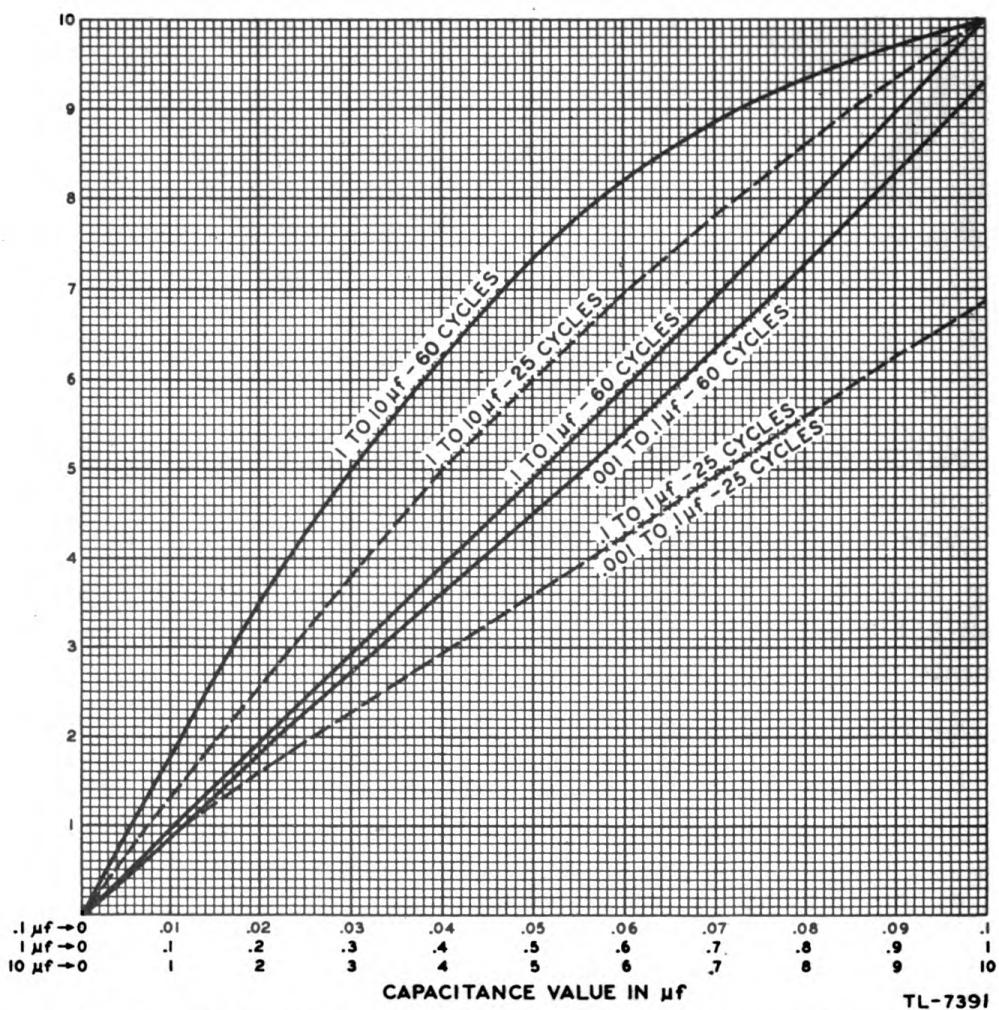
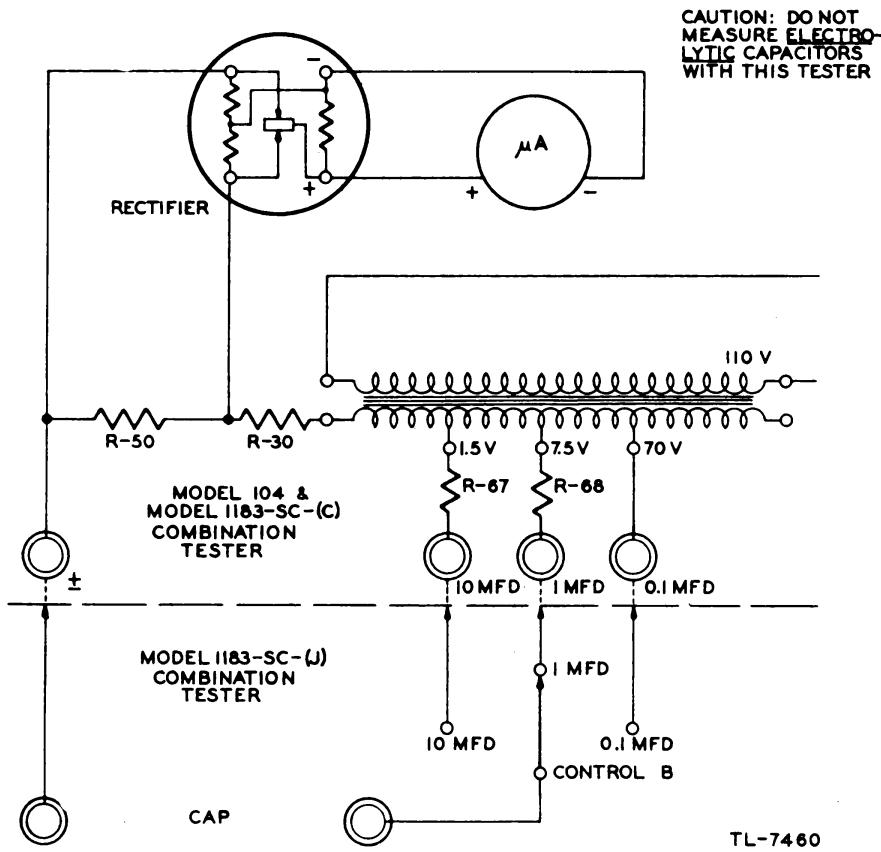

FIG. 10. COMBINATION TESTER, CAPACITANCE TEST GRAPH
FIG. 18. MODEL 104 COMBINATION TESTER, SIMPLIFIED CAPACITANCE MEASURING CIRCUIT
h. Read the meter indication on the 0-10 A.C. scale. Then refer to the capacitor test graph (fig. 10) to determine the capacitance value corresponding to the meter reading. The capacitance value chart lists approximate readings for 60-cycle current.
- g. Read the meter on the 0-10 A.C. scale. Refer to the capacitor test graph (fig. 10) to determine the capacitance value corresponding to the meter reading.
e. *Combination Tester as a Capacitance Measuring Device* (fig. 18). When Control D is set at CAP, the circuits are so arranged that either the 1.5-, 7.5-, or 70-volt winding of transformer (T-1) is placed in series with the capacitor being tested. Resistors (R-50) and (R-30) are shunted across the rectifier input. One terminal of the capacitor under test is connected to an input terminal of the rectifier. The other input terminal of the rectifier is attached to resistor (R-30). The indicating meter is placed across the output terminals of the rectifier. The meter is read on the 10-volt a-c scale. This reading is used with the capacitance graph (fig. 10) to determine the capacity of the capacitor under test.